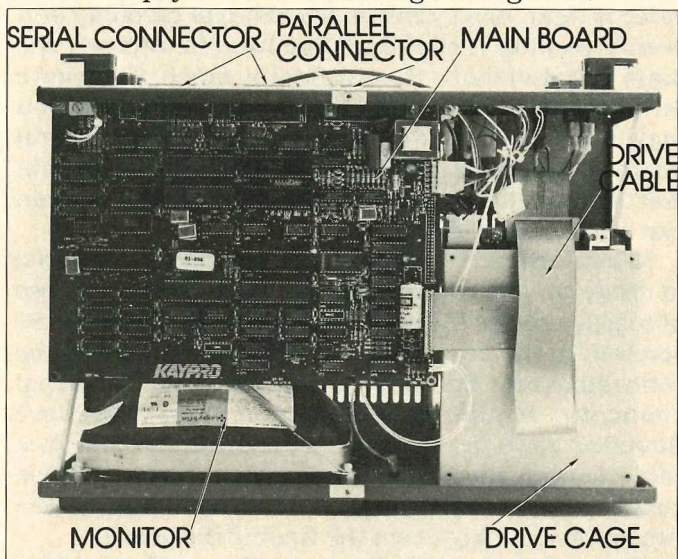

FIGURE 1: Top View of Kaypro With Cover Off
**Survey Your Kaypro's Insides.** As you face the front of the computer (where the screen is) and look down from the top, you'll see something like Figure 1, below.